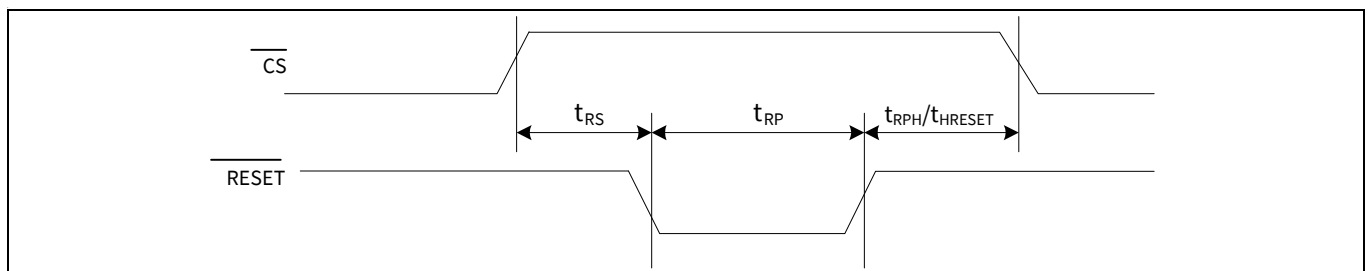
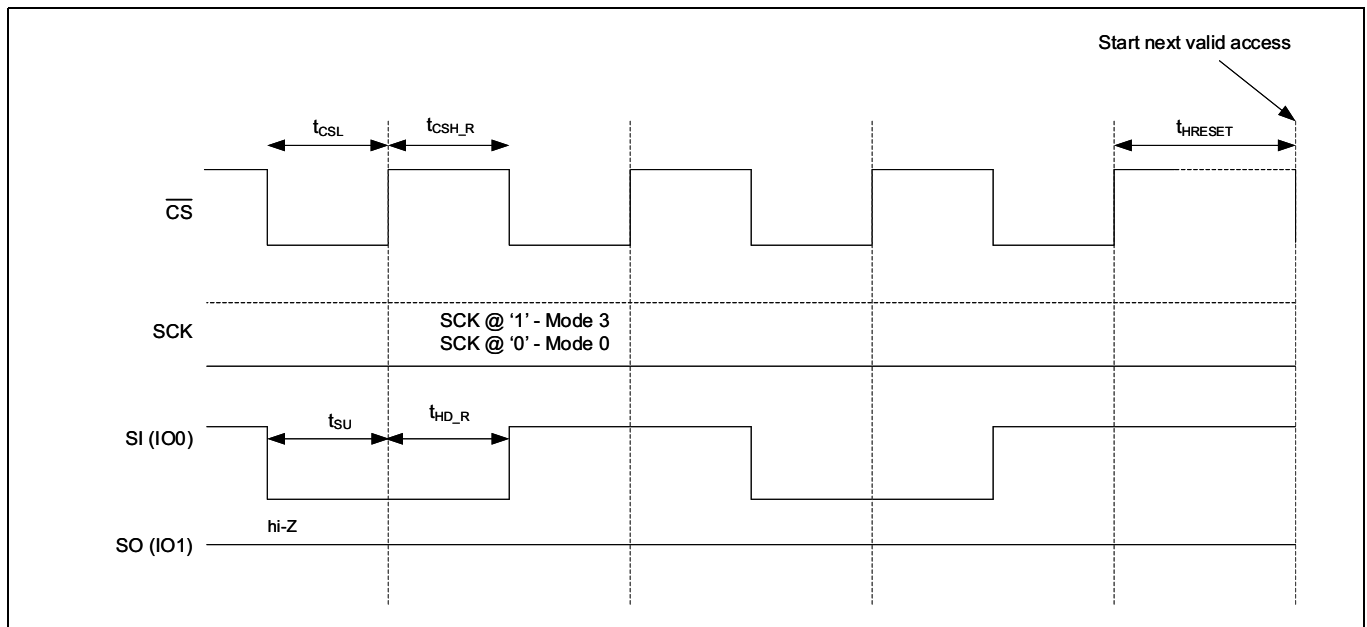

Figure 109 $\overline{\text{RESET}}$ timing - SPI with quad set (CR1[1] = 1) or QPI enabled (CR2[6] = 1)
Figure 111 JEDEC SPI reset
The hardware reset input ($\overline{\text{RESET}}$) is multiplexed on ($\overline{\text{RESET}} / \text{I/O3}$) and is an active LOW signal in CY15x116QSN device. Refer to Table 21 for hardware reset ($\overline{\text{RESET}}$) pin configurations across various SPI interfaces. When $\overline{\text{RESET}}$ is pulled LOW, CY15x116QSN self initializes and brings its configuration back to the power up status. Refer to Table 59 for different registers configuration after $\overline{\text{RESET}}$ cycle. Once $\overline{\text{RESET}}$ is issued, CY15x116QSN takes $t_{\text{RPH}}/t_{\text{HRESET}}$ time from $\overline{\text{RESET}}$ rising edge to complete the reset cycle. CY15x116QSN becomes inaccessible during t_{RPH} time. Figure 109 to Figure 111 show the $\overline{\text{RESET}}$ timings in different reset mode.
- The $\overline{\text{RESET}}$ pin is multiplexed on I/O3 in the QPI mode. When using the hardware ($\overline{\text{RESET}}$) in QPI mode, the CR2 [5] bit must be set to '1' to enable to use I/O3 as $\overline{\text{RESET}}$ input when $\overline{\text{CS}}$ is HIGH. Figure 109 shows the $\overline{\text{RESET}} / \text{I/O3}$ timing in QPI mode
Refer to Figure 111 for timing details.